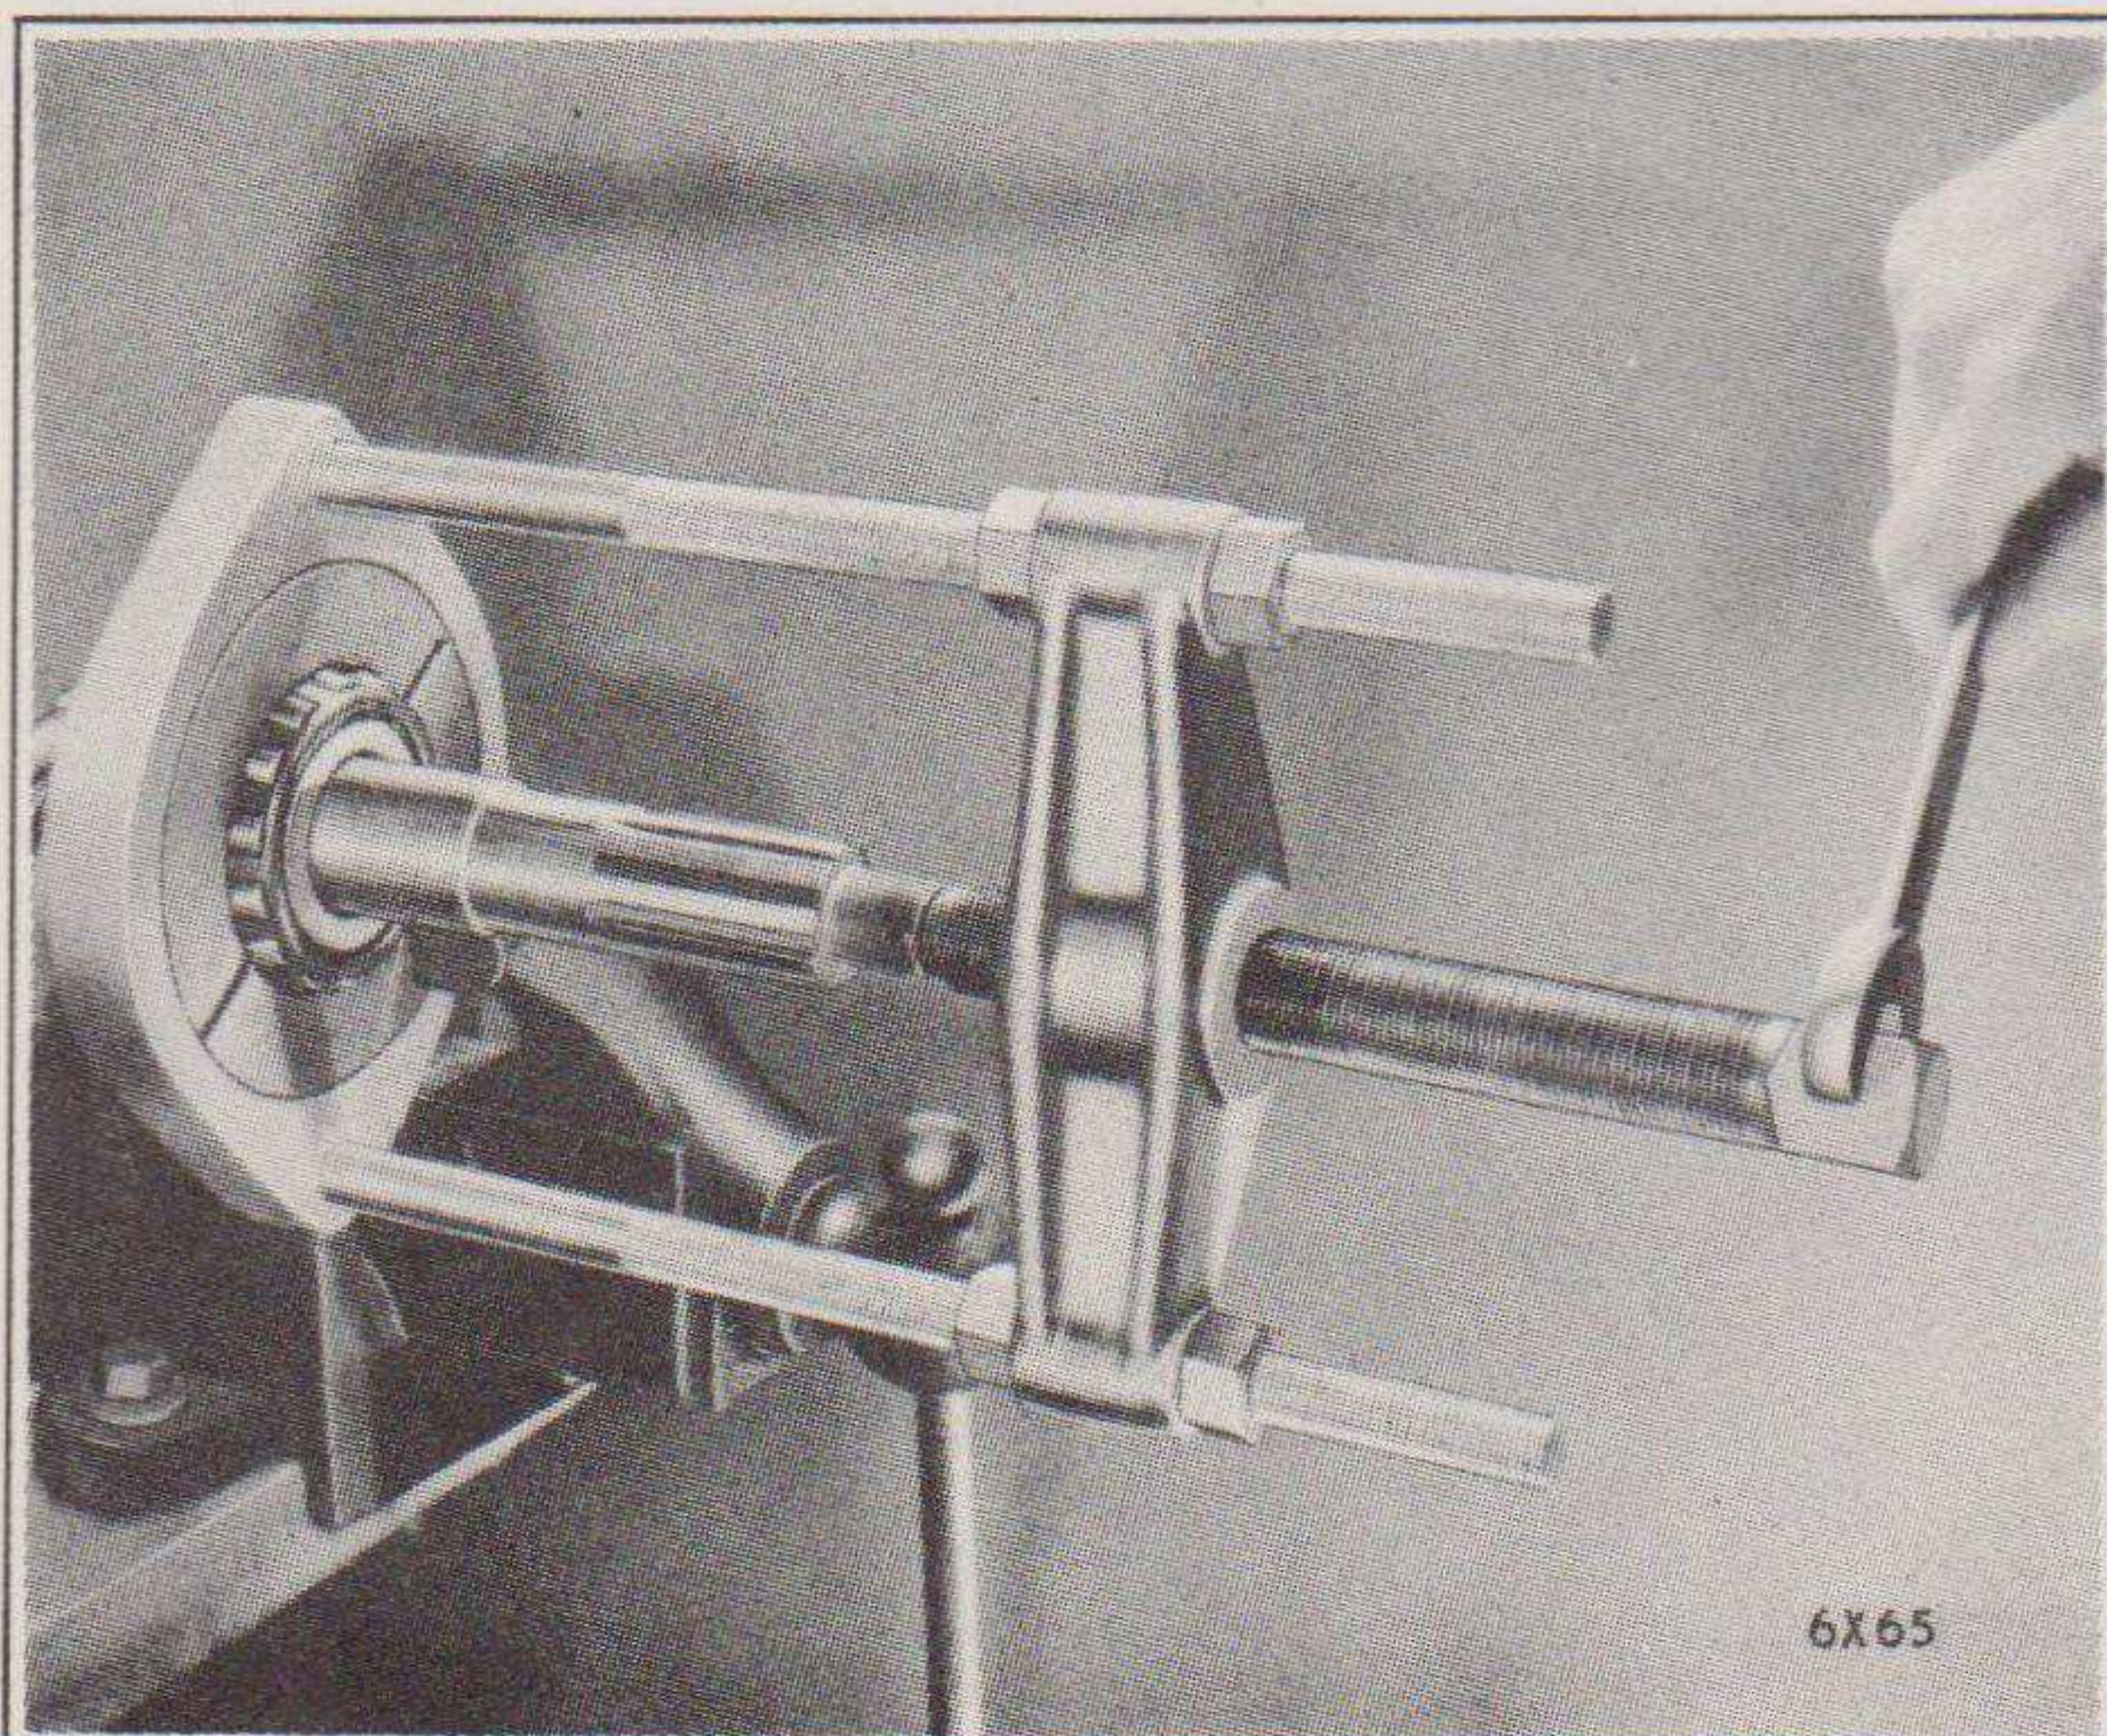

Fig. 60—Removing Drive Pinion Bearing with Tool C-293-U
- Remove the bearing cone and rollers from the pinion shaft as shown in Fig. 60.